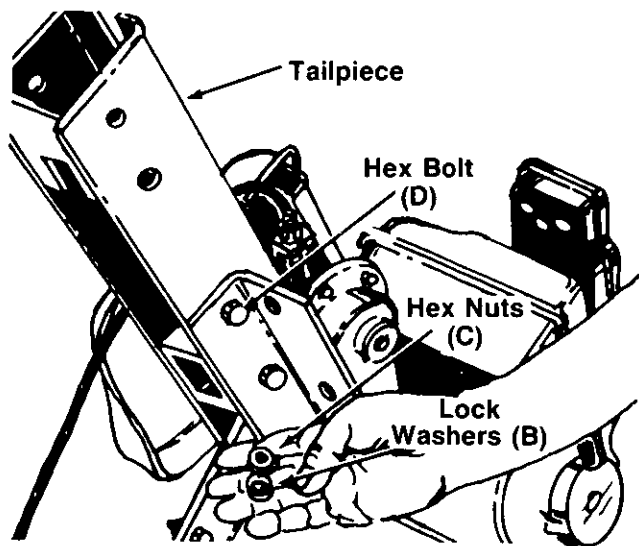

FIGURE 4.
- Secure the tailpiece to the rear frame rails with two hex bolts (D), lock washers (B) and hex nuts (C). See figure 4. Tighten all four hex bolts and nuts securely. Two 1/2" wrenches are required.